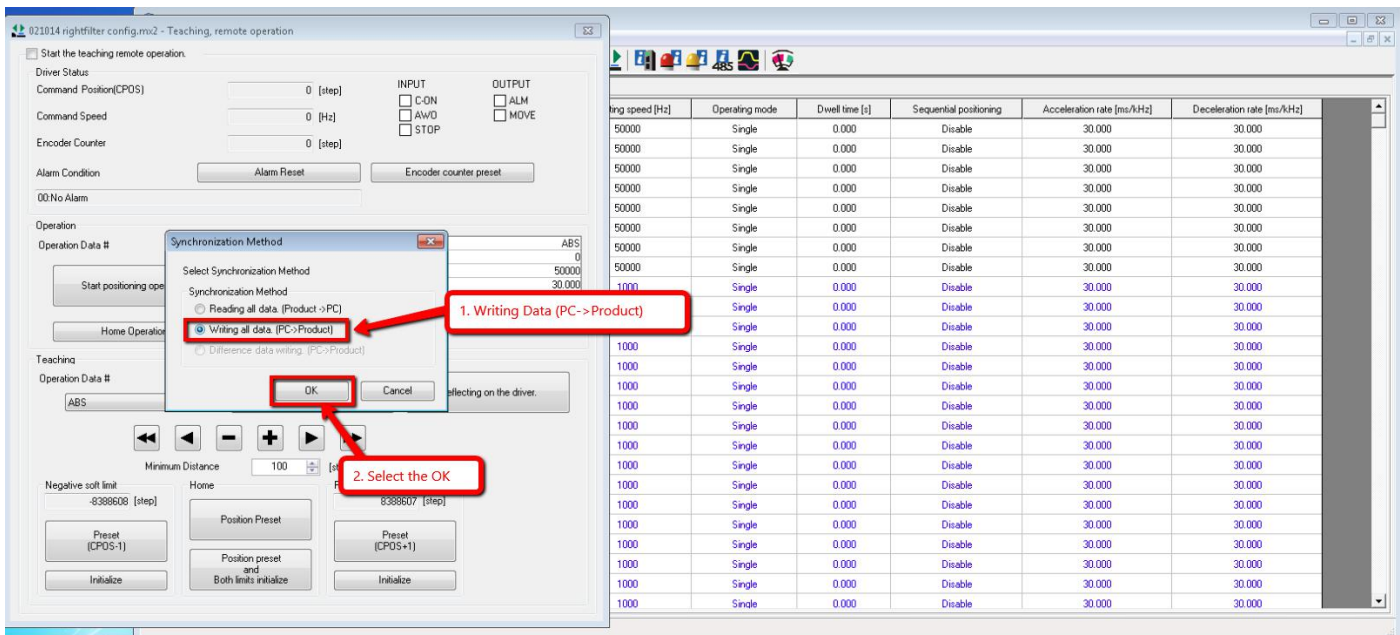

Figure 43 Writing Process
35. Select the Writing all data (PC->Product) as shown in the Figure 43 then press OK. Wait until it finish writing the data into the Right Oriental motor driver as shown in the Figure 44.